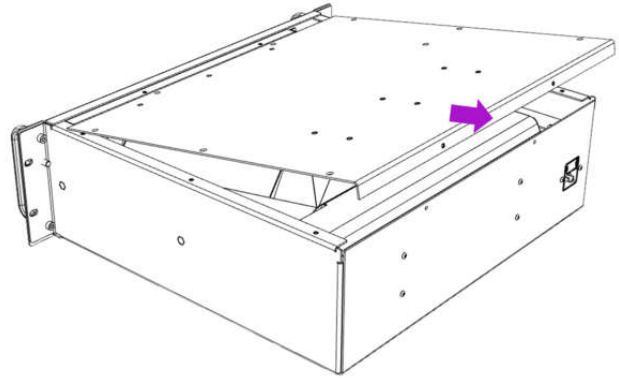

Fig. 12
5. Pull upper housing lid in the direction of arrow (Fig.12)